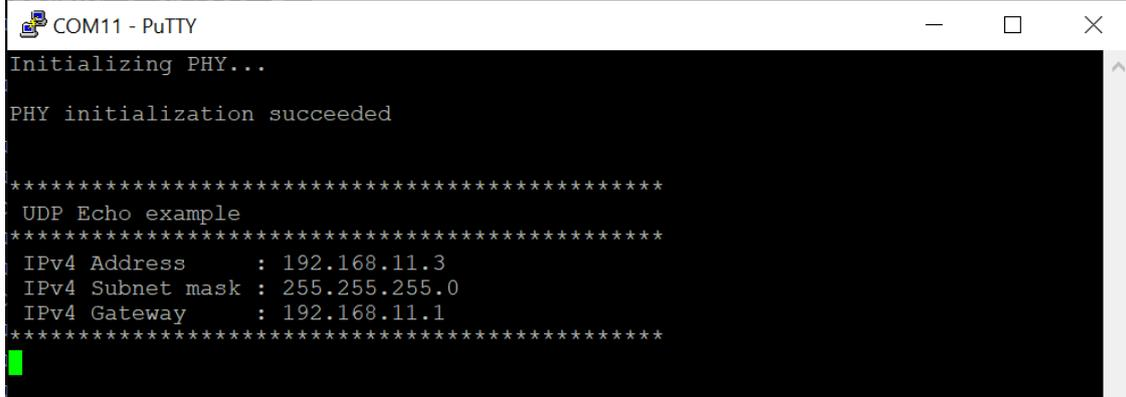

Figure 4. Text display of the udpecho demo
**Note:** Do not change the number of the port. The UDP application is configured to listen and send on port 7. Figure 4 shows the output on Cortex-M.